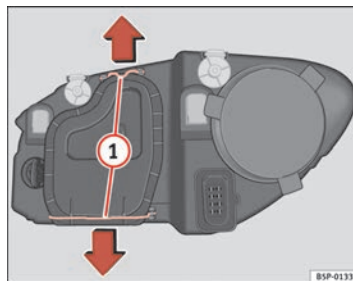

Fig. 186 Dipped head-lights
- Remove the loops ⇒ page 268, fig. 186 ① in the direction of the arrow and remove the cover.